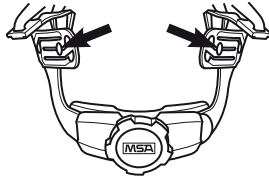

Fig. 2
- (4) When the helmet is on the head, adjust the horizontal position of the helmet by sliding the headband clips along the headband to ensure the face shield correctly fits over corrective spectacles worn underneath. (see Fig. 2).